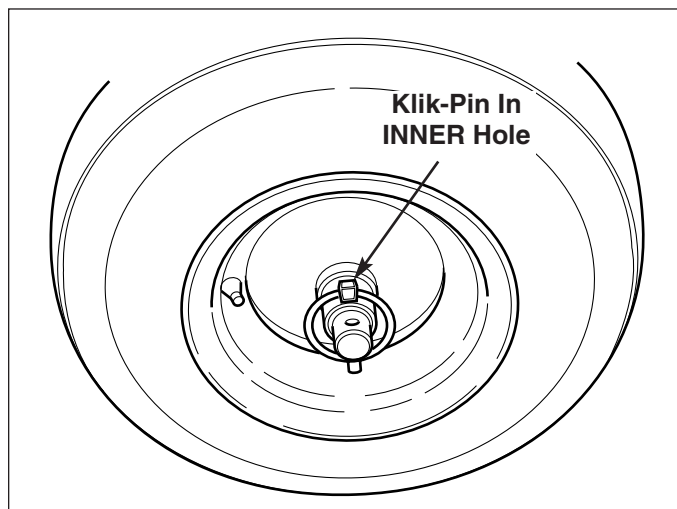

Figure 10. Traction Drive Lock - Engaged
3. To **ENGAGE** the traction drive lock, insert the pin through the hub and axle (See Figure 10). If the hole in the hub is not aligned with the inner hole in the axle, push the snowthrower until the holes align and install the Traction Lock Pin.